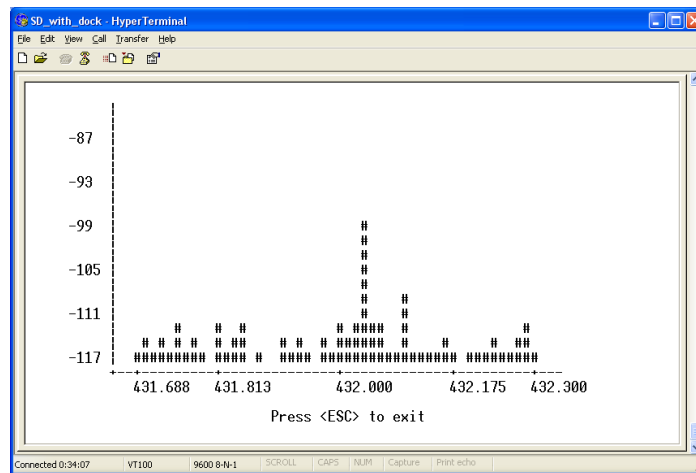

Figure 50. Spectrum Analyzer—Results Screen
1. Select **Spectrum** from the RF Test Menu to bring up the Spectrum Analyzer screen (Figure 50).
6. Select **Start Spectrum Analyzer** from the menu and press the **[ENTER]** key. A results screen is presented showing all detected signals in the specified range. (See Figure 50). The vertical bars show detected RF signals. The scale on the left side shows the amplitude level of these signals in dBm.